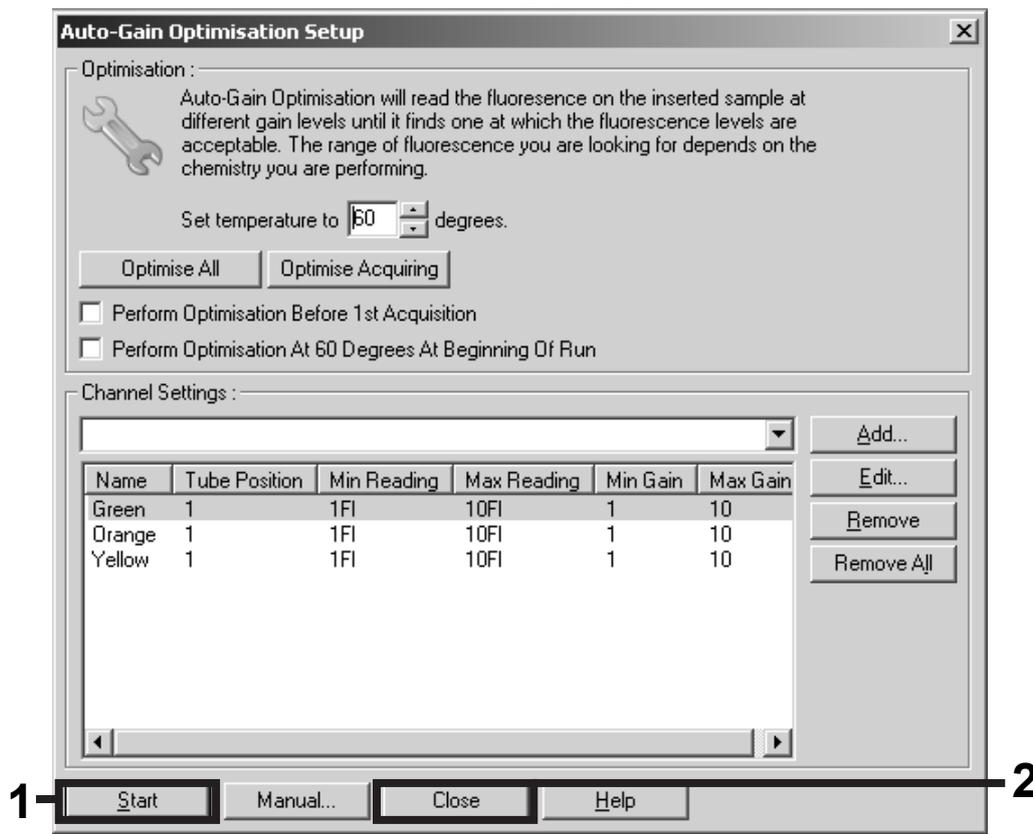

Figure 8. Gain optimization.
10. Click the "Start" button to start gain optimization. After gain optimization is finished, click "Close" to return to the run wizard (Figure 8).